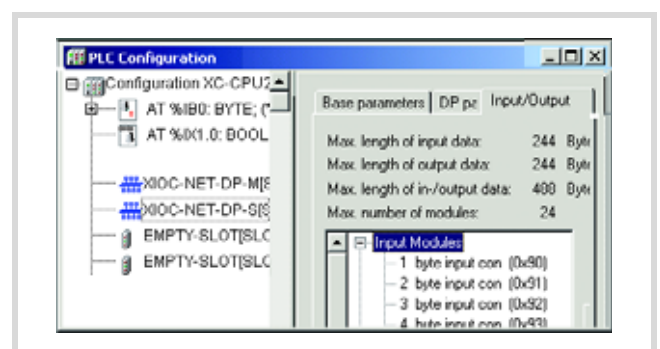
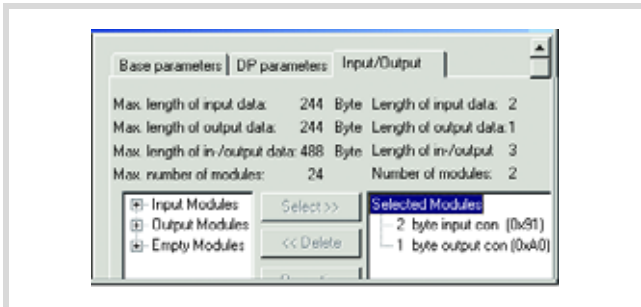

Figure 86: Selection of the inputs/outputs
Figure 87: Parametric programming of the inputs/outputs
- Select in the "Inputs/Outputs" tab (→ figure 86) the inputs/outputs for the slave, so that it corresponds to Figure 87.
The selection of the modules including their identity (e.g. 0x91) and their sequence must correspond with the selection in the DP-M/DP-S module → figure 87.